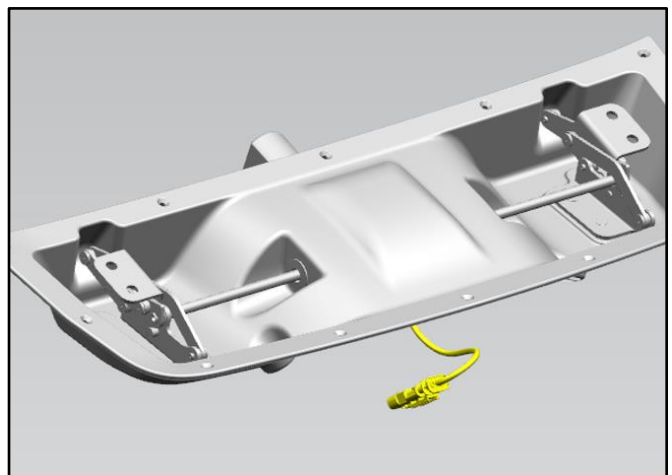

Figure 12
12. Lift the spoiler mechanism carefully and disconnect it from the wiring harness. (Refer to Figure 12.)